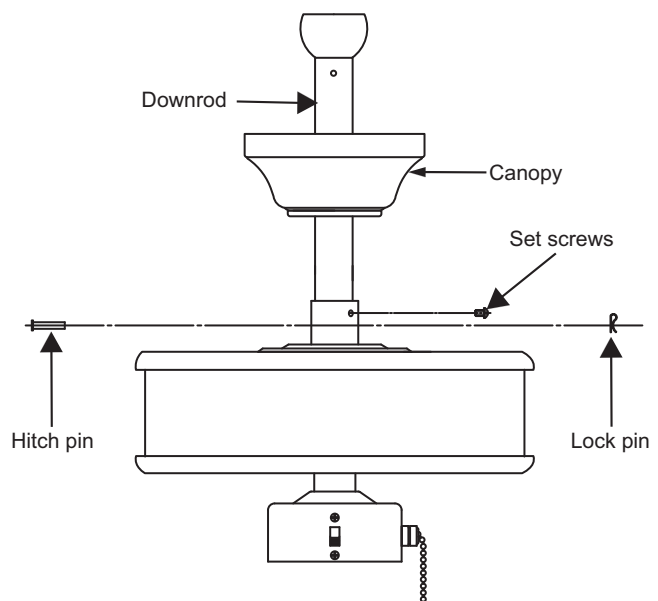

Figure 6
**Step 4.** Route wires exiting from the top of the fan motor through the canopy and then through the ball/ downrod. (Fig. 6)
**Step 5.** Align the holes at the bottom of the downrod with the holes in the collar on top of the motor housing (Fig.6). Carefully insert the hitch pin through the holes in the collar and downrod. Be careful not to jam the pin against the wiring inside the downrod. Insert the locking pin through the hole near the end of the hitch pin until it snaps into its locked position, as noted in the circle inset of Fig. 6.
**Step 6.** Tighten two set screws on top of the fan motor firmly. (Fig. 6)